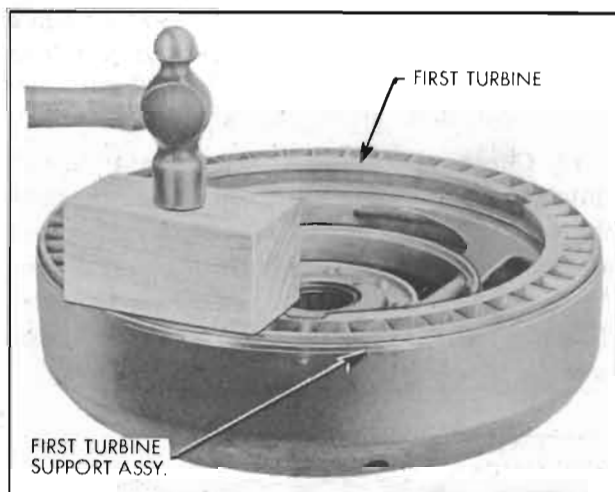

Figure 5-64—Driving First Turbine Into Support
15. Carefully drive turbine down into position by tapping with a wood block. Roll pin holes must line up. See Figure 5-64.